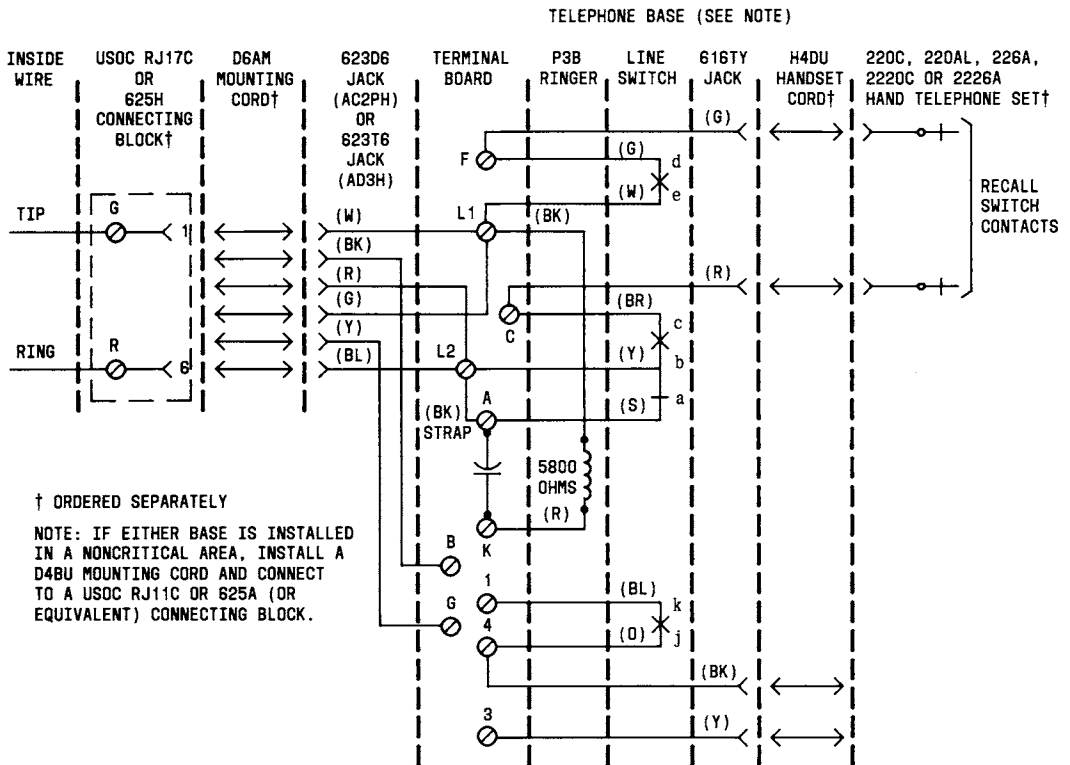

Fig. 11—AC2PH or AD3H Telephone Base, Connections With 220C, 220AL, 226A, 2220C, or 2226A Hand Telephone Set
1.19 Refer to Fig. 11 for AC2PH or AD3H telephone base connections.